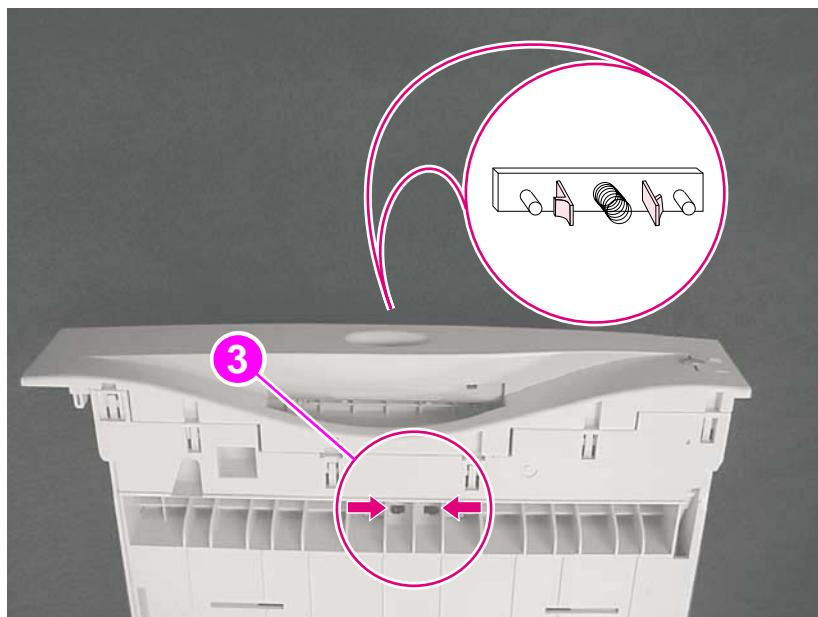

Figure 74.
- 2 While pressing down the paper lift plate (callout 2), reach under the front of the tray and squeeze the black tabs (callout 3 in figure 74) to release the separation pad from the tray.